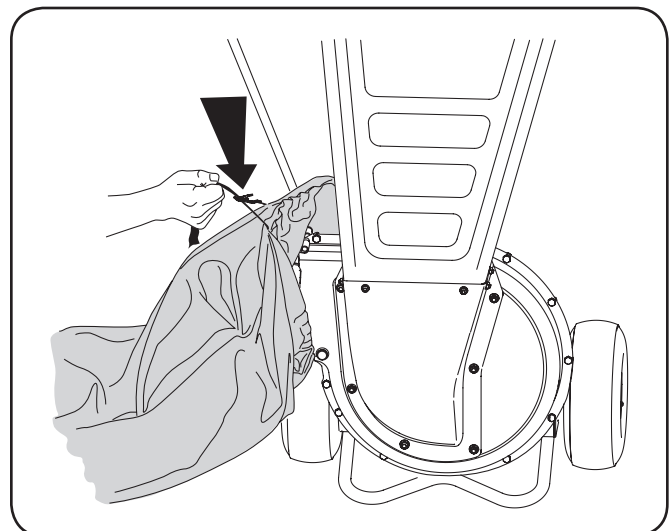

Figure 5-3
2. Squeeze the locking buckle to release the bag's draw strap before loosening it from the chute deflector. See Fig. 5-3.